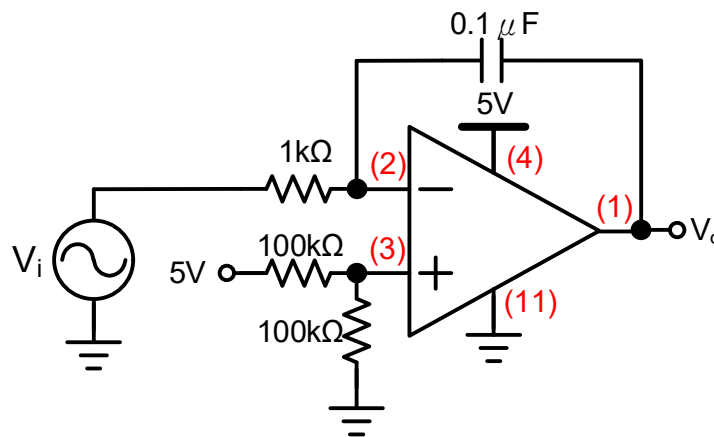

Fig. 3.11 OPAMP inverting integrator
- (1) Assemble the circuit as shown in Fig. 3.11.
- (2) Use $R=1k\Omega$, $C=0.1\mu F$.
- (3) Measure the voltage of pin 1, 2, 3, 4, 11, and record down the values in Table 3.7.
- (4) Provide V_i with a $200mV_{p-p}$, 2.5V offset, 1kHz square wave signal and observe the output waveform and the input signal.
- (5) Provide V_i with a $200mV_{p-p}$, 2.5V offset, sine wave signal with respective frequency in Table 3.8 and fill up the Table.